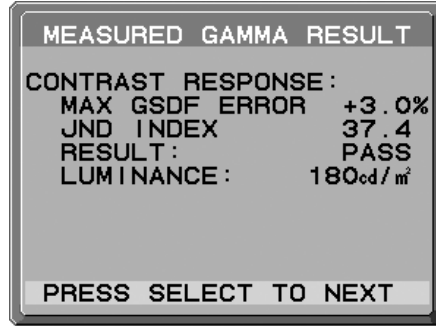

Figure D.2
4. After the GAMMA MEASURED RESULT message appears (**Figure D.2**). You can set DATE and TIME using control keys, and press SELECT.